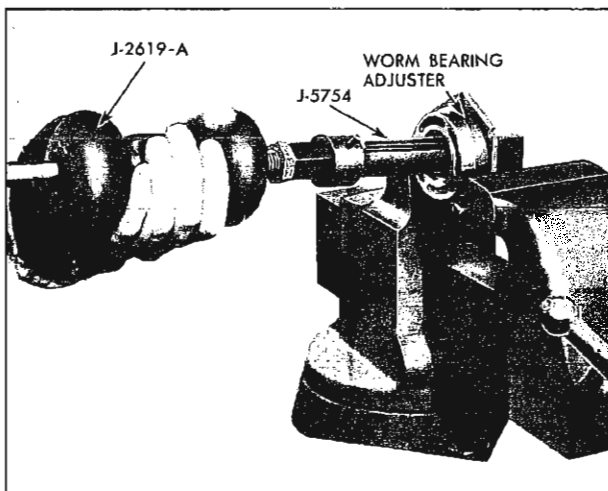

Fig. 9-23 Removing Bearing Cup from Worm Bearing Adjuster
1. Remove lower cup from worm bearing adjuster (Fig. 9-23), using tool J-5754 and J-2619B slide hammer.